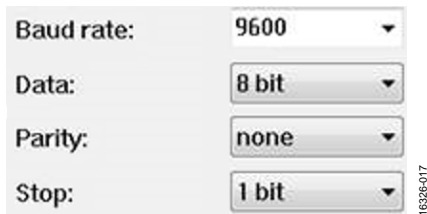

Figure 23. UART Configuration
8. The other settings are as shown in Figure 23.